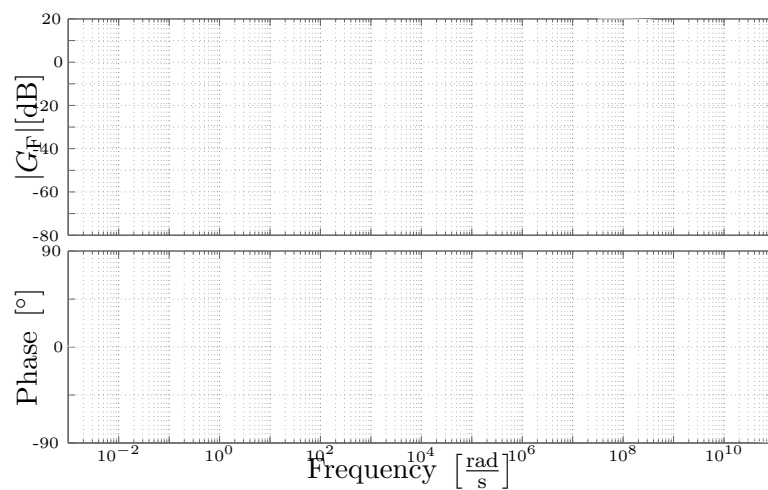

Figure 5.3: Bode plot of the filter (asymptotes)
- Draw in the asymptotes for the amplitude and phase behavior of $G_F(s)$ in Figure 5.3.